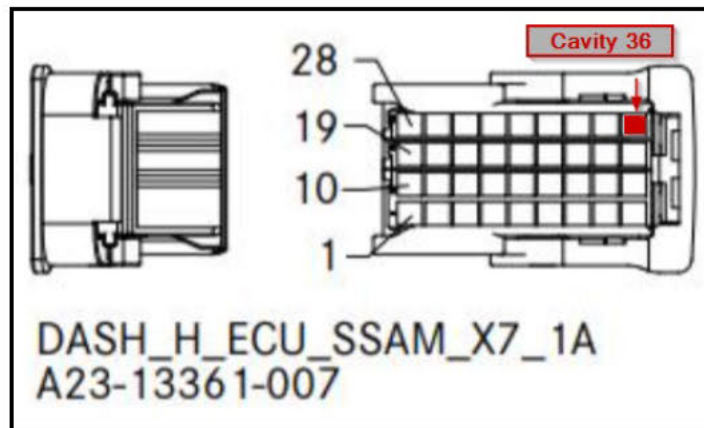

Fig. 4. Connector X7
12. Insert circuit 379X into connector X7 cavity 36. See Fig. 4.